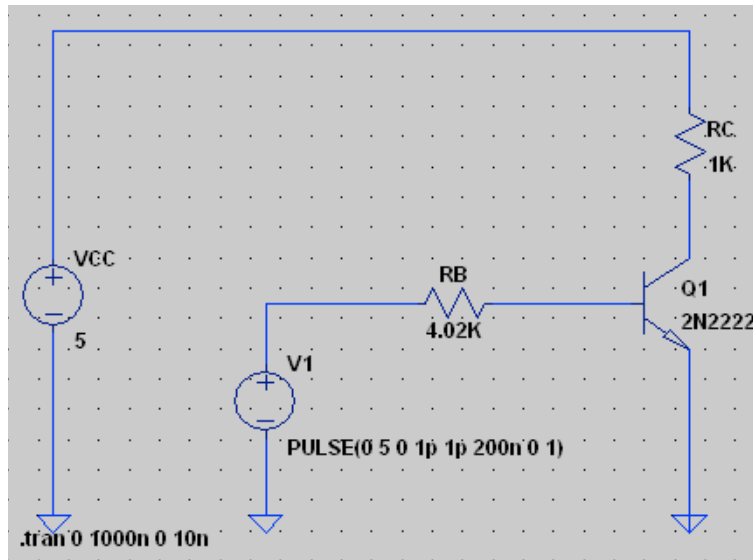

Figure 1: Unclamped resistor-transistor logic gate.
- 1.3. Construct the unclamped common emitter BJT amplifier circuit shown in Figure 1. Note that the resistor values, supply voltage and transistor used must be as indicated in the schematic.